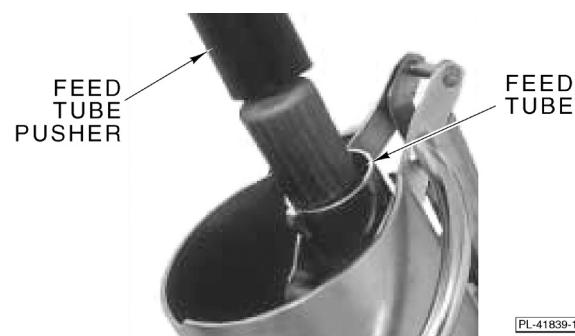

Fig. 11
3. Put the food item into the feed tube (Fig. 11).
4. Put the feed tube pusher on top of the food item (Fig. 11).